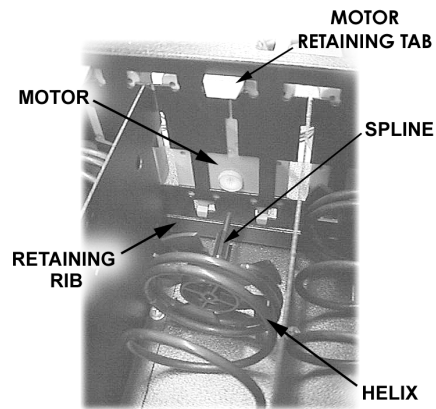

Figure 5.3. Auger Timing
5. Tilt motor back and lift up approximately 1/2” to disengage the auger hub from the retaining rib in the bottom of the tray. See **Figure 5.3**.